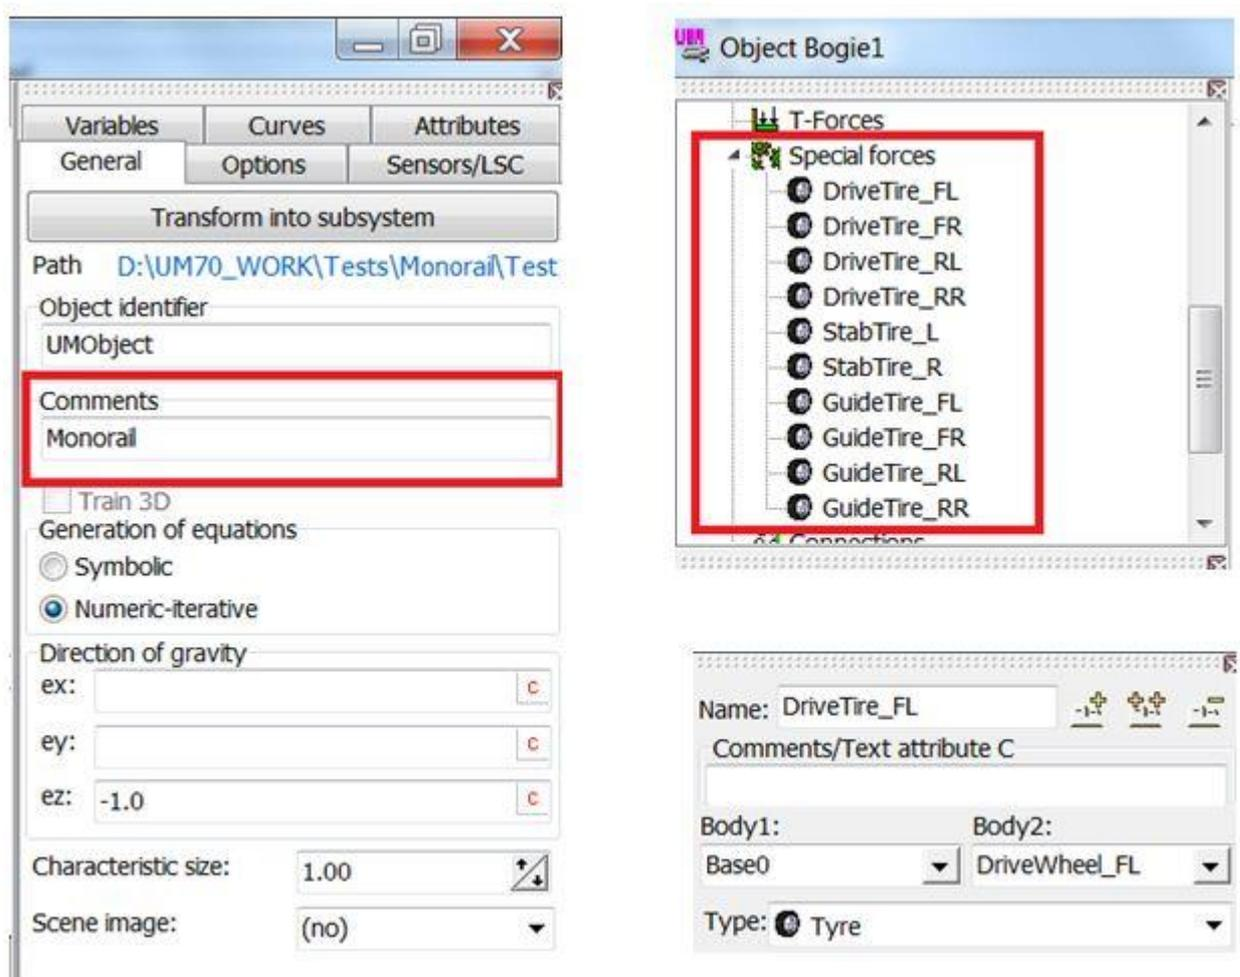

Figure 26.3. Text attribute ‘Monorail’. Special forces ‘Tires’
- The standard text comment ‘Monorail’ must be set in the **Comments** box on the **General** tab of the data inspector, figure 26.3, left;
- Special forces of the **Tire** type are assigned to the wheels, figure 26.3, right.
- Center of mass is located at the origin of the wheel-fixed system of coordinates (SC).
- A special force element of **Tire** type should be created for each of the wheel, figure 26.3, right.